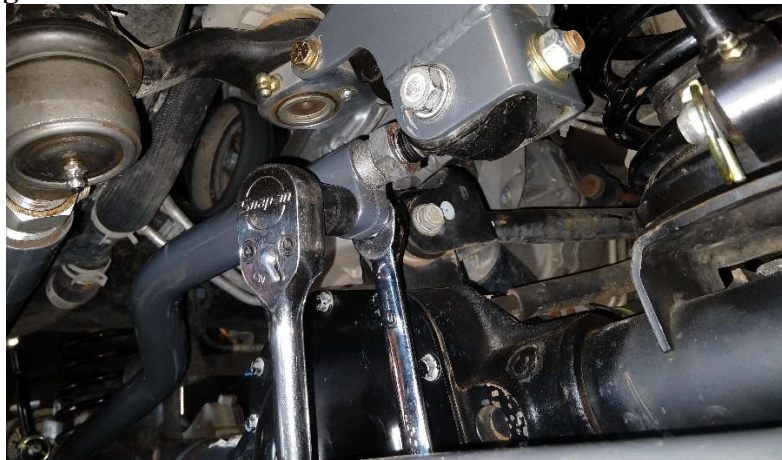

Figure 8. Tightening the Pinch Bolt and Nut
8. Install the 1/2" pinch bolt through the hole in the forging of the track bar, with the bolt head towards the front of the Jeep, the nut towards the rear. With a 3/4" socket and wrench, tighten the pinch bolt to 90 lb-ft. See **Figure 8**.